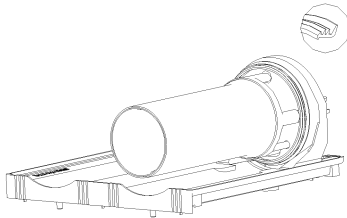

Figure 8
4.Fit bowl gasket around its seat (fig.8)